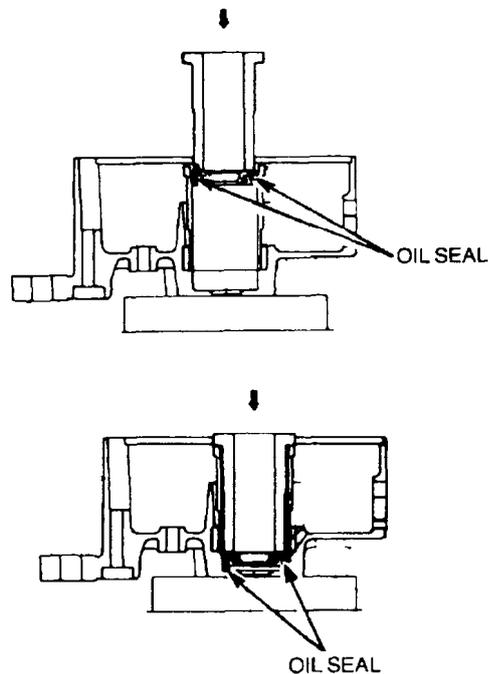

Figure 304 Installing The Vacuum Pump Oil Seal
- (1) Using a suitable arbor, press in the new seal (Figure 304).